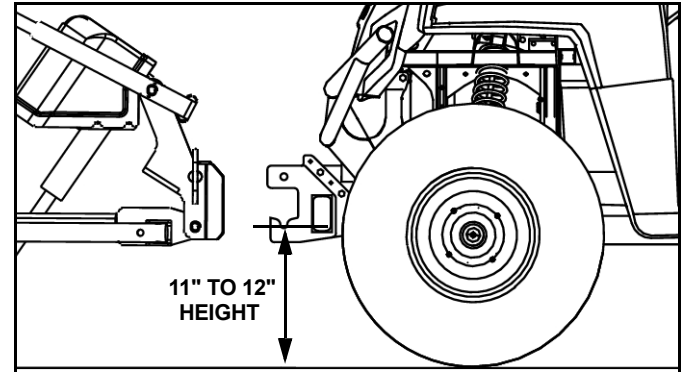

Figure 6
- Adjust the UTV Mount (#1) on the machine to provide an 11" to 12" height between the lower pin slots and the ground. (See Figure 6.)